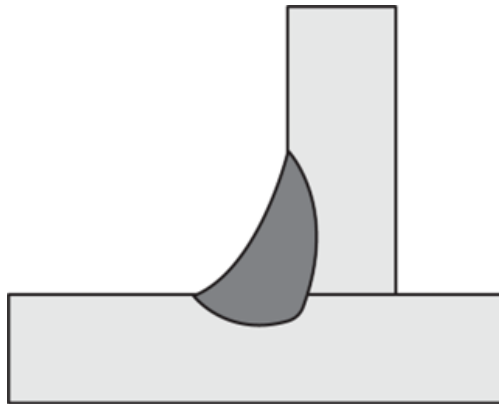

Figure 2 Undersized weld (BC Industry Training Authority, 2019). CC BY-NC-SA 4.0 (<https://creativecommons.org/licenses/by-nc-sa/4.0/>)
- **Figure 2** Gas pipeline welding, Azna 2017 (https://commons.wikimedia.org/wiki/File:Gas_pipeline_welding_,_Azna_2017.jpg) by Hamid Soufi on Wikimedia Commons is used under a CC BY-SA 3.0 (<https://creativecommons.org/licenses/by-sa/3.0/>) license.
Any variation from the specified weld size influences the distribution of stress in the weld. This will affect the strength of the weld. Welds that are undersized usually have insufficient throat (Figure 2), which substantially reduces the strength of the weld. Stresses concentrate at the centre of the weld, increasing the likelihood of joint failure. Undersized welds are usually the result of a fast rate of travel.